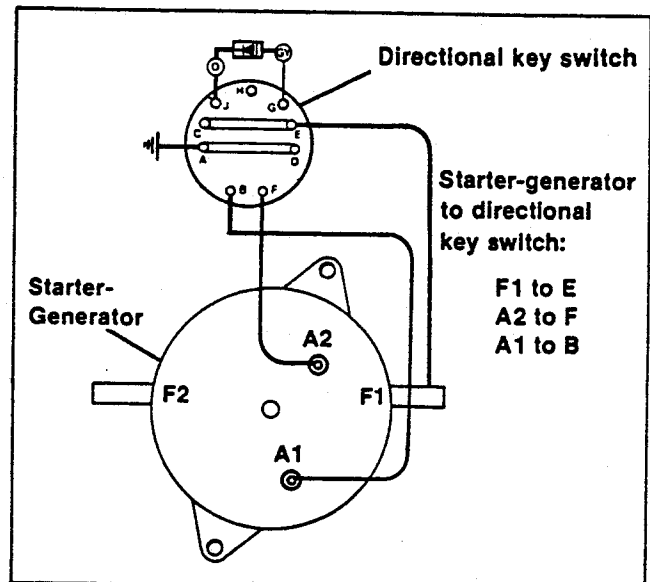

Figure 8-4. Switch Wires
1. See Figure 8-4. From starter-generator to directional key switch, connect switch wires as follows: